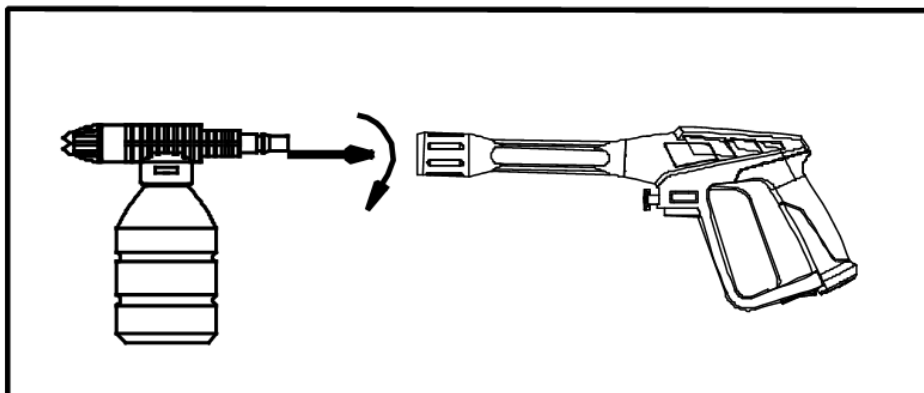

Figure 11 - Connecting the detergent applicator to the high-pressure gun
- 4) Connect the detergent applicator to the gun (see fig. 11)